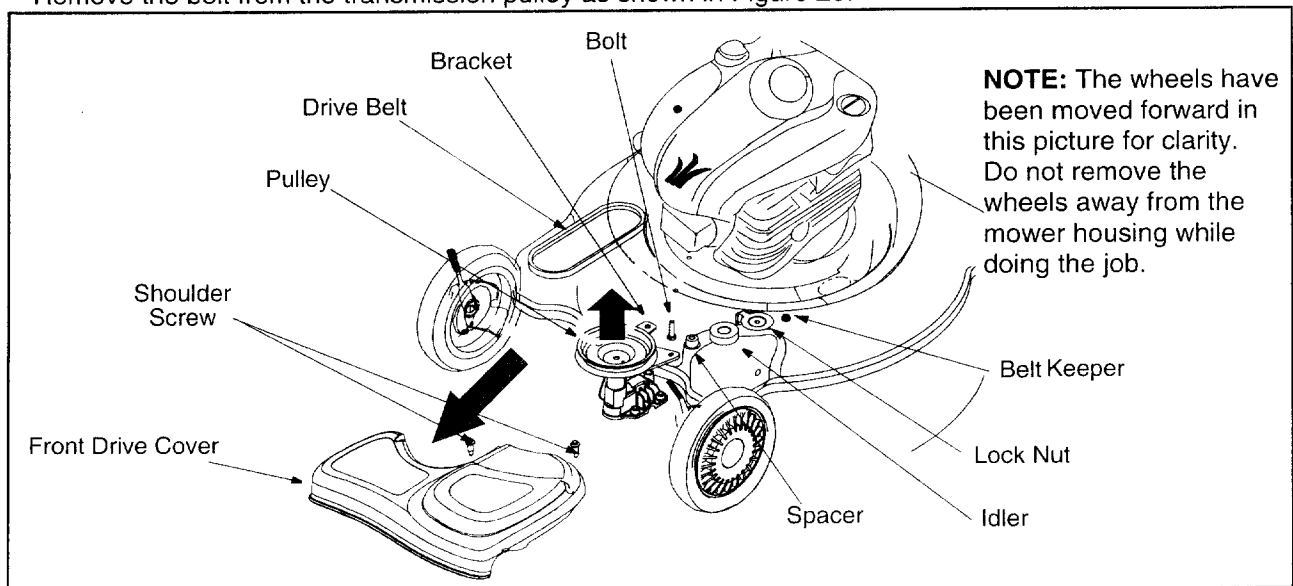

FIGURE 20
- Remove the two shoulder screws from on top of the deck which secures the front drive cover to the mower deck. See Figure 20.
- Remove the idler and hardware from the idler bracket using 7/16" wrench and socket. See Figure 20.
- Remove the belt from the transmission pulley as shown in Figure 20.